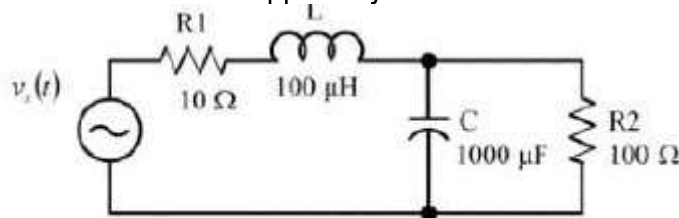

Fig.1
11. A linear circuit supplied by a nonsinusoidal source is shown in Fig.1.